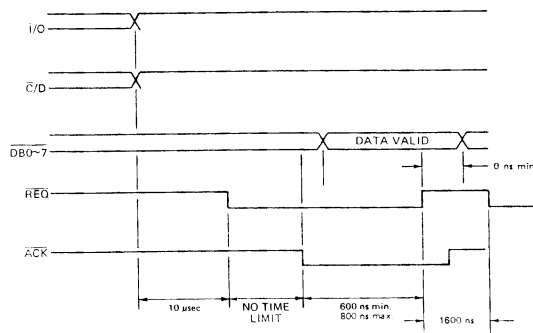

Figure 10
- Fig. 10 illustrates the timing requirements for data transfer from Host.